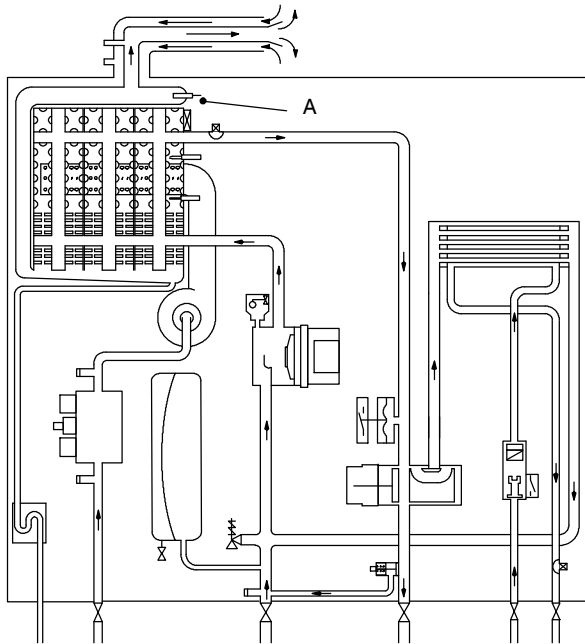
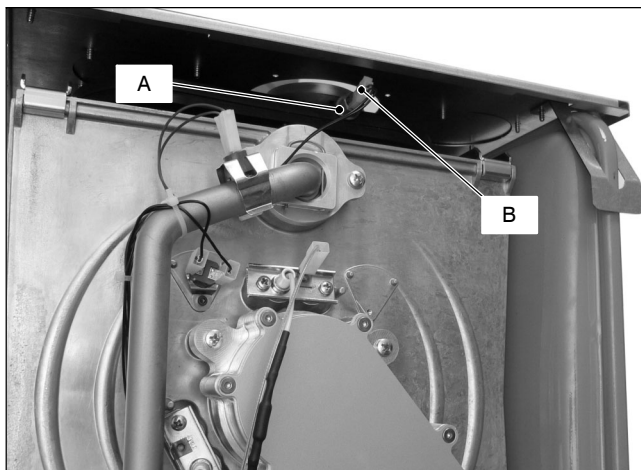

Fig. 20.1
Fig. 20.2
The Flue temperature probe NTC *A* in Fig. 20.1 and Fig. 20.2 senses the temperature of the combustion products that flow through the condensing heat exchanger.
- 3 Unscrew and remove the flue temperature probe *A* (Fig. 20.2) from the condensing heat exchanger.